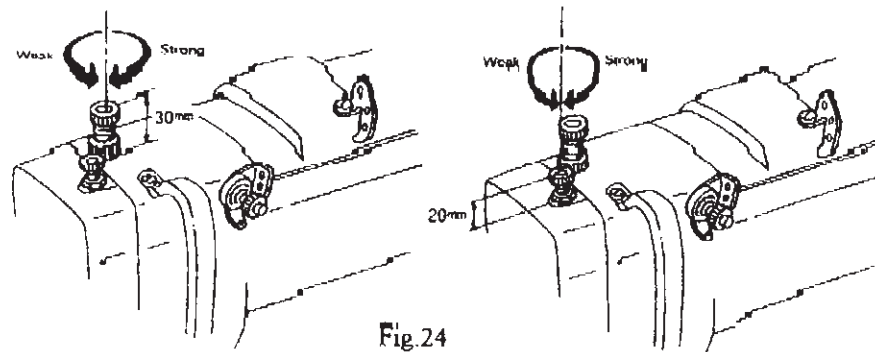

Fig.24
24. Adjustment of presser pressure (Fig.24):